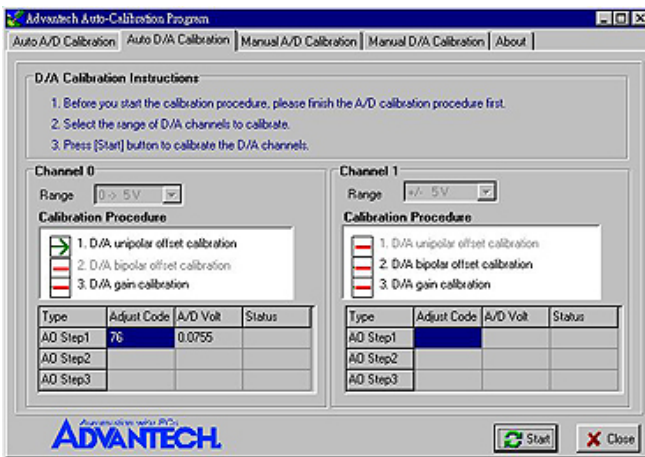

Figure 6-10: Calibrating D/A Channel 0
Step 10: D/A channel 0 calibration is enabled (Fig. 6-10)